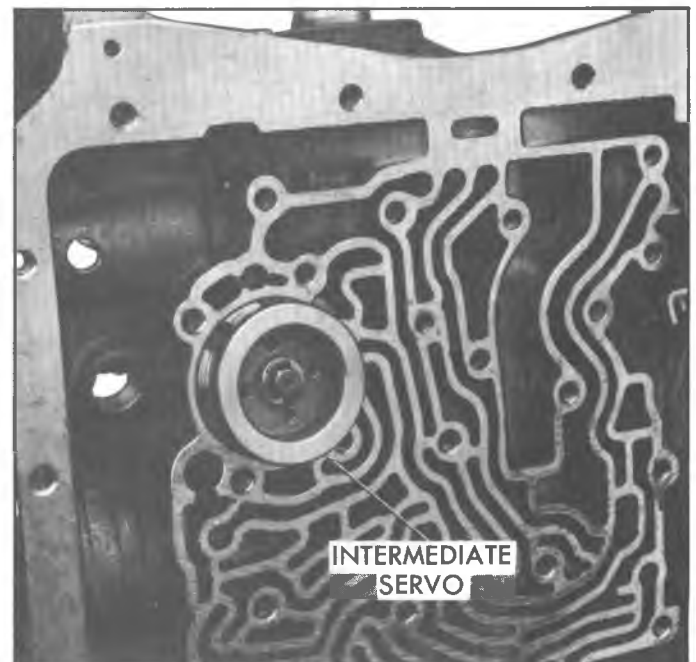
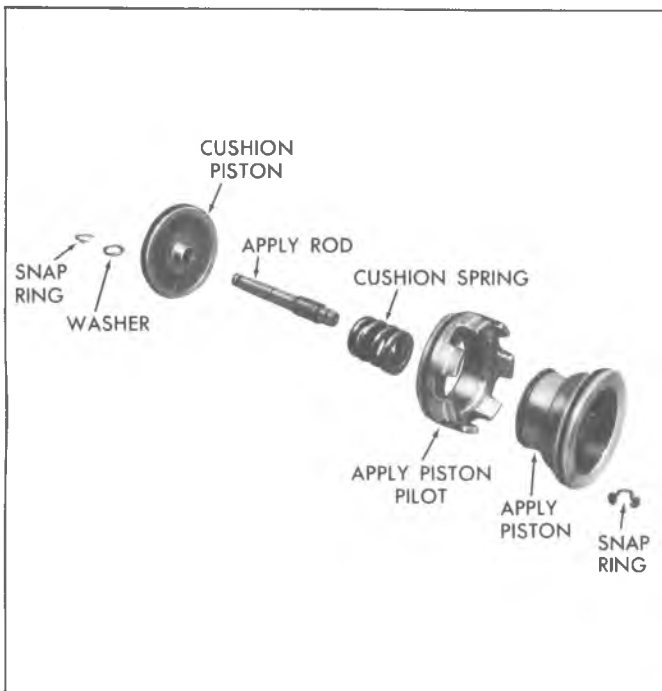

Fig. 29N--Removing Intermediate Servo
Fig. 30N--Intermediate Servo
5. Remove intermediate servo (fig. 29N) and disassembly as shown in figure 30N.